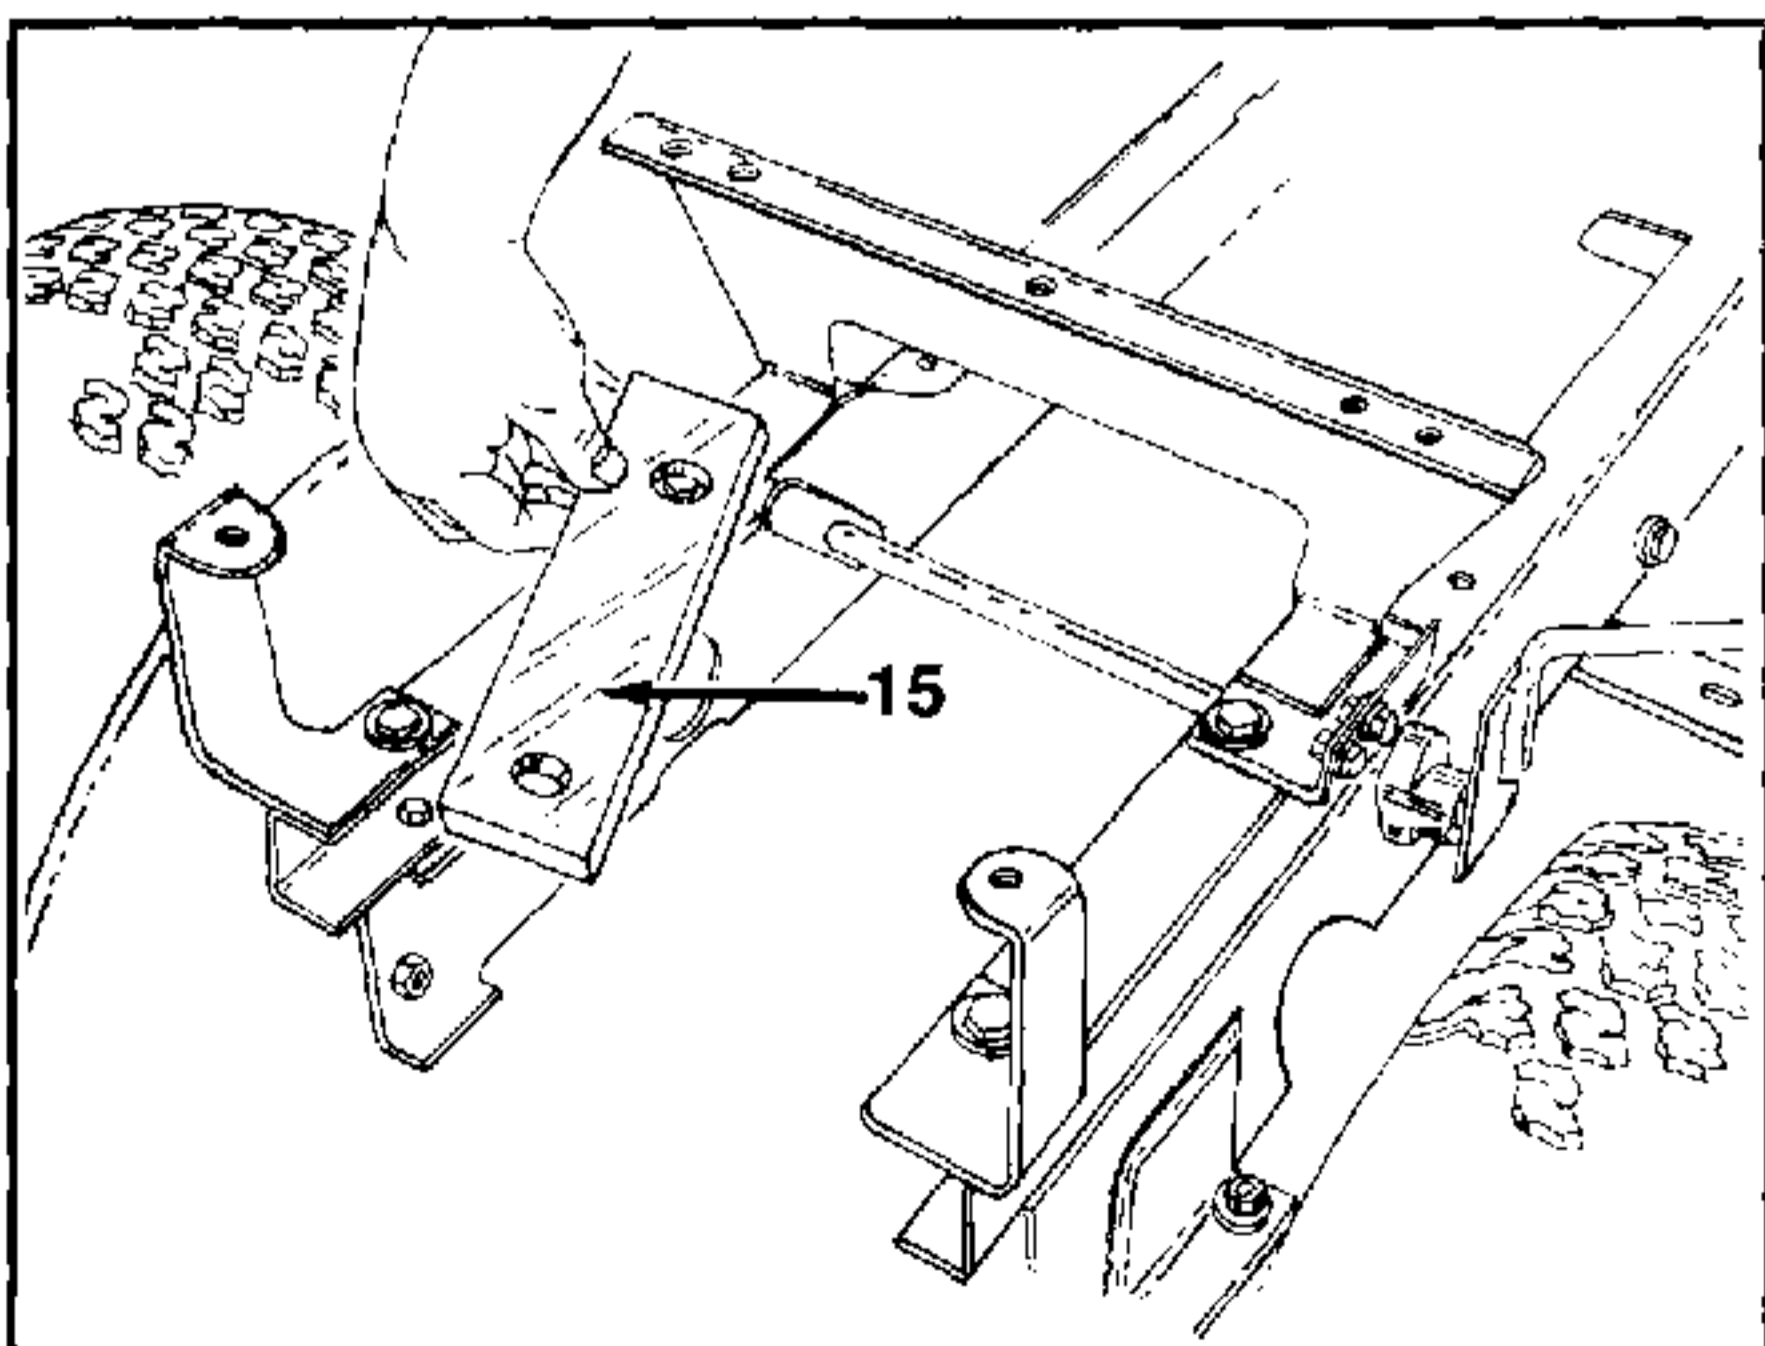

FIGURE 6.
10. Remove the two rubber support straps (Ref. 15), just sitting under fuel tank and on top of fender mount brackets. See figure 6.